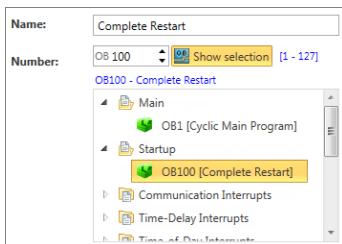

Fig. 156: Select OB
**OB:** You can select predefined organisation blocks from a list: Click on 'Show selection' and select the desired OB from the list. Fig. 156